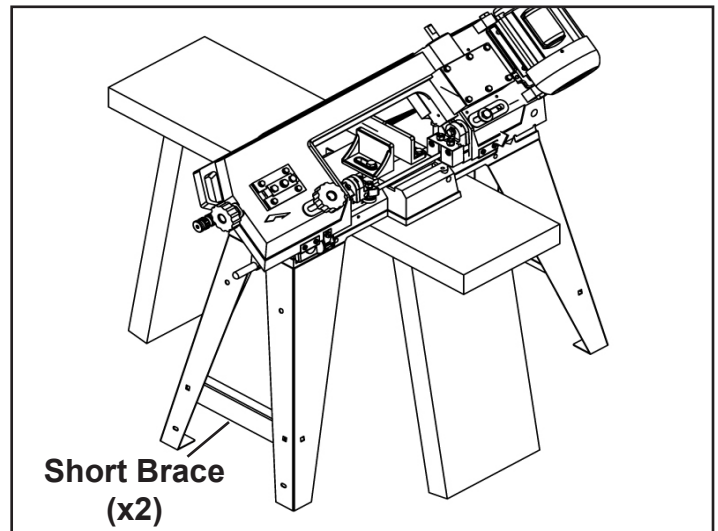

FIGURE 1
1. With the help of an assistant, lift the band saw onto a suitable support. Example: Figure 1.